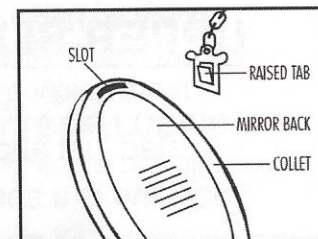

Fig. 9
2. Now, follow steps 3, 4 and 5 for making Pin-back buttons. Remove the button. Attach the key chain by inserting the raised tab into the collet, making sure the tab is facing the artwork. If the key chain does not stay inserted in the button, you have inserted the tab backwards (see Fig. 9).